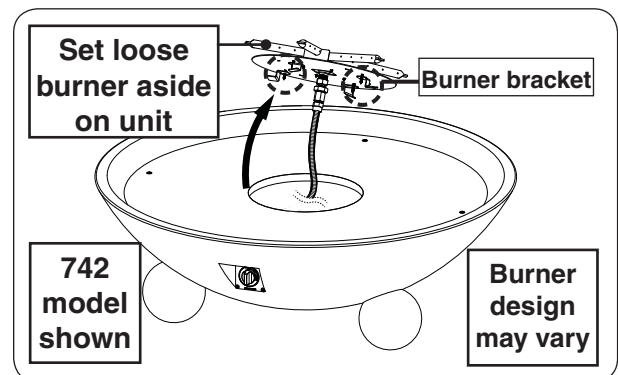

Fig. 27-3 Remove burner assy
1. Use a $\frac{5}{16}$ " nut driver to partially unfasten the four screws found on the burner assembly. Then **carefully** remove the burner and set it off to the side. See Fig. 27-3.